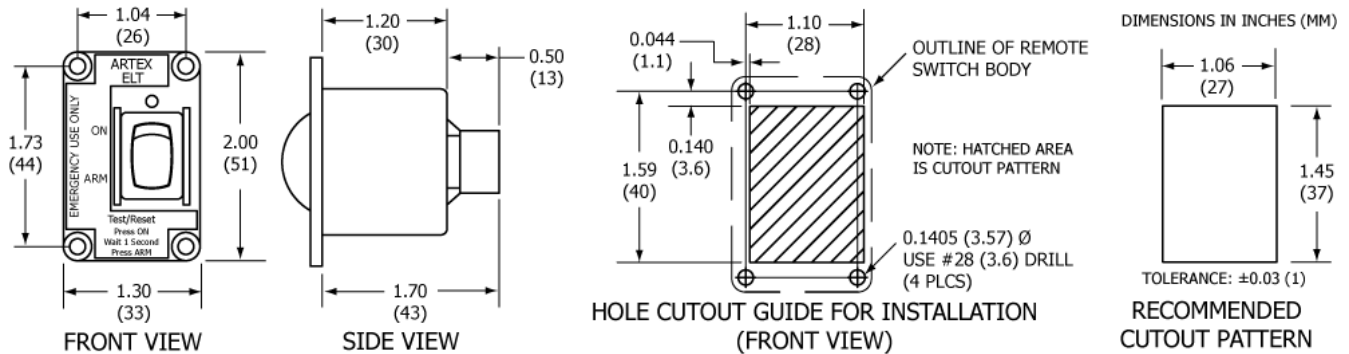

Figure 18 Remote Switch Outline and Dimensions
- The switch assembly requires a panel area of approximately 2.0 x 1.3 in. (51 x 33 mm). Figure 18 shows the dimensions. The clearance behind the panel must allow for the mating connector and harness wires, as well as the switch depth.